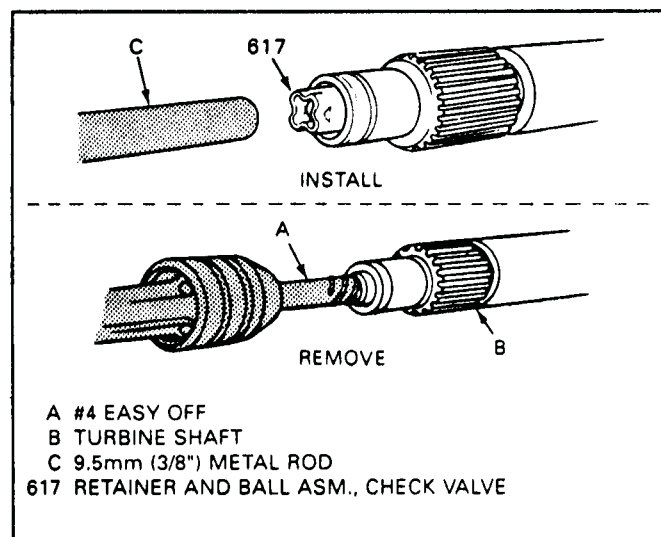

Figure 85
2. Remove the capsule using a #4 screw extractor as shown in Figure 85.
4. Install new ball capsule assembly using a 3/8" drift punch, and seat the retainer 1/8" below top surface of the turbine shaft, as shown in Figure 85.